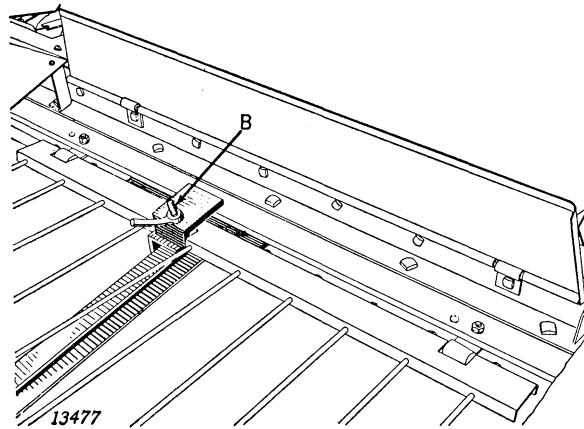
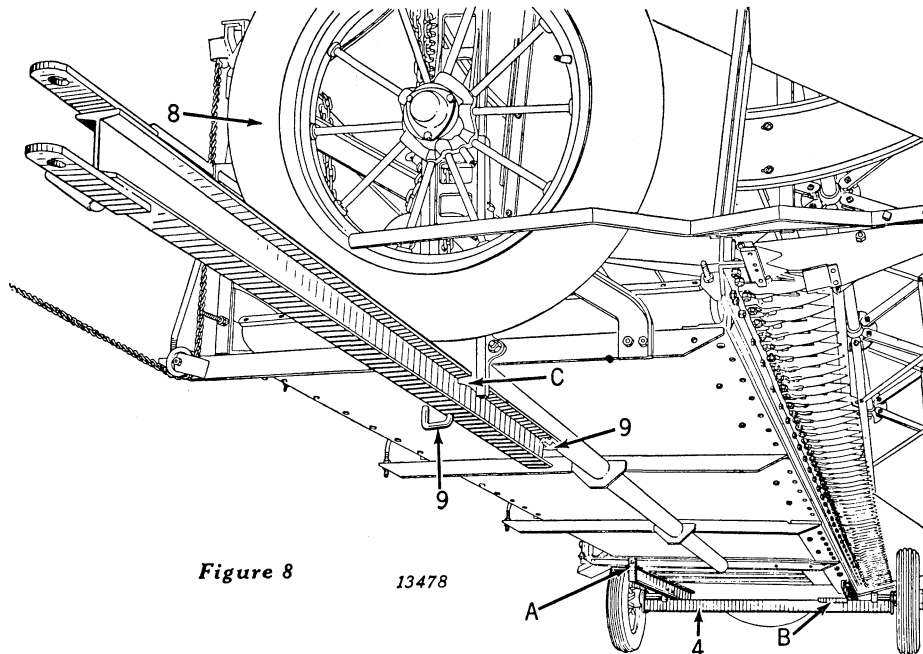

Figure 7
Figure 8
4. (Figure 8) Roll transport truck under platform from the front side. Lower platform onto transport truck and secure platform to truck with lock pin, "A," Figure 8, and clamp bolt "B," Figures 7 and 8. Disconnect windrower from tractor. *NOTE: 16-foot Windrower Only.* When disconnecting be sure to leave hitch plate "A" (Figure 9) connected to side draft equalizer and to windrower hitch.
8. (Figure 8) Raise grain wheel to highest position.
9. (Figure 8) Raise outer end of platform. Insert stub transport tongue into bracket, "C," Figure 8, on lower end of grain wheel sector. Insert pin at rear end of stub transport tongue into hole in platform cross angle. Secure to platform outer cross angle with lock pin.